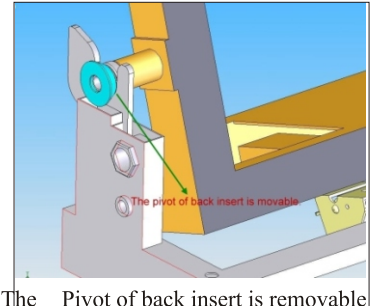

Fig.3
- * Figure 3: shows correct pivot alignment.